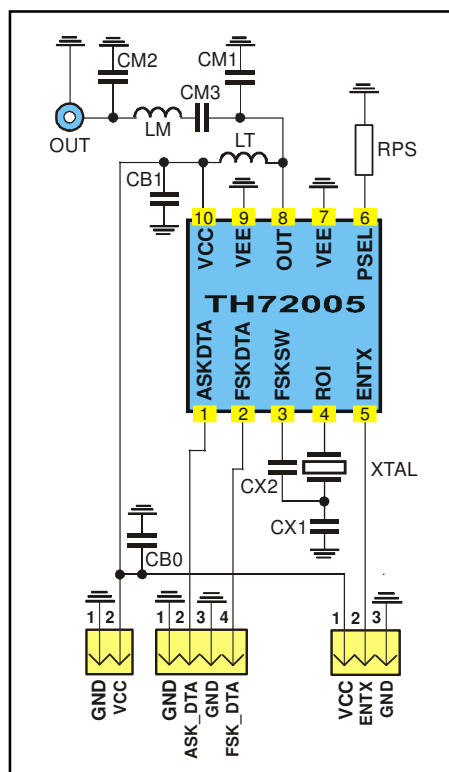

Fig. 18: Test circuit for FSK and ASK with 50 Ω matching network
typical values at $T_A = 23\text{ }^{\circ}\text{C}$ and $V_{CC} = 3\text{ V}$; test circuit shown in Fig. 18, $f_c = 315\text{ MHz}$
- Data according to test circuit in Fig. 18
6.1 Test circuit component list to Fig. 18